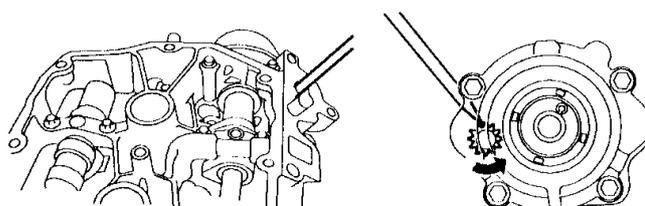

Figure 30
- Check that the timing slots in front and rear VVC control sleeves are visible through the holes in the camshaft carrier as shown in figure 30.